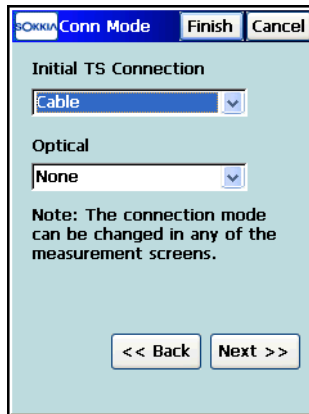

Figure 4-70. Conn Mode
4. On the **Conn Mode** screen, select the connection mode (the *Initial TS Connection* parameter from the drop-down list) and tap the **Next** button (Figure 4-70). Selections depend on the instrument type. For Conventional and Reflectorless modes, only Cable; for Robotic, also Radios Only, RC2 with Radios, RC2 Only, and RC2 Only (Bluetooth®).